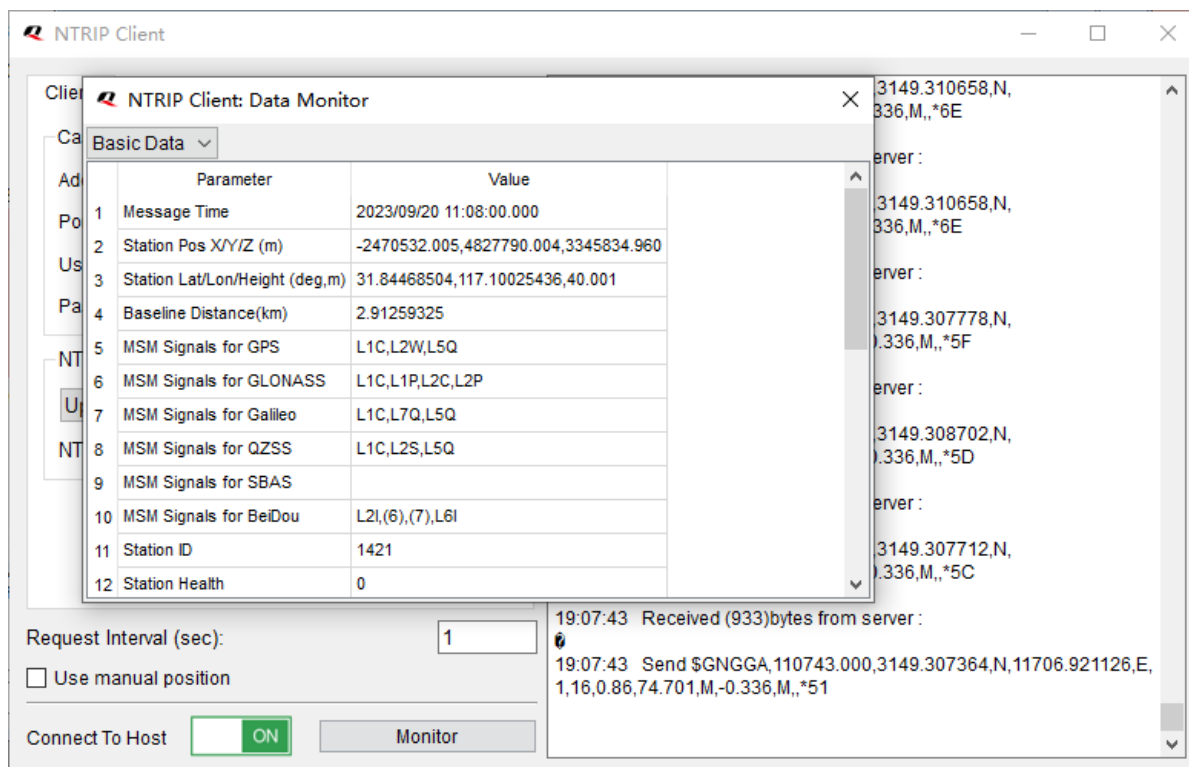

Figure 29: RTK Data Monitor
- Step 7:** Click **“Monitor”** button to open the **“NTRIP Client: Data Monitor”** window where you can view the differential correction data sent by the server, as shown in Figure 29: RTK Data Monitor.